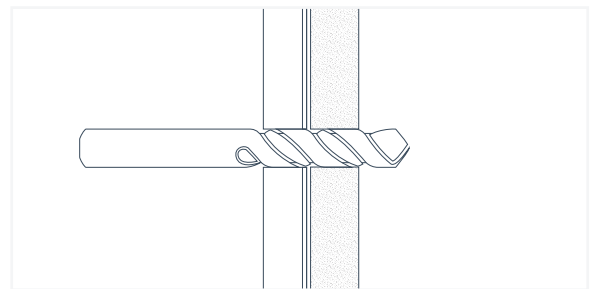

Fig. 51
1. Drill a hole through the Trusscore Wall&CeilingBoard and any backer material if applicable (Fig. 51). The hole size is dependent on the size of toggle bolt you are using. This should be indicated on the toggle bolt packaging.